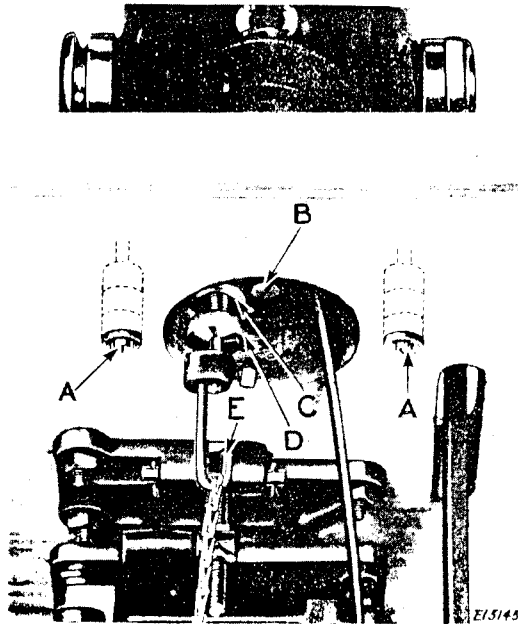

Fig. 2. Machine 242-1 on Individual Table and Stand with Singer Electric Transmitter
OIL DRAIN. Oil may be drained from the reservoir by removing the oil drain plug (B) shown in Fig. 2.
The pressure holding the feeding cups closed may be regulated by turning the large thumb screw (D, Fig. 2), underneath the table, to the right or left after loosening the lock nut (C, Fig. 2). This pressure should be only heavy enough to insure positive feeding and not so heavy as to damage the stocking material.